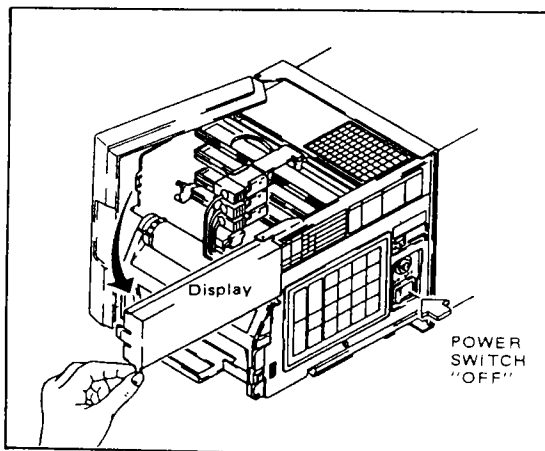

Figure 5-13.
- (2) Switch power off by pressing the "POWER" switch to the "OFF" position. The power switch is located on the right side of the extended unit next to the key pad and just under the key lock. (See Figure 5-13.)
- (3) Swing open the display door by grasping the small tab located at the front lower left corner of the display cover and gently pull outward. (See Figure 5-13.)